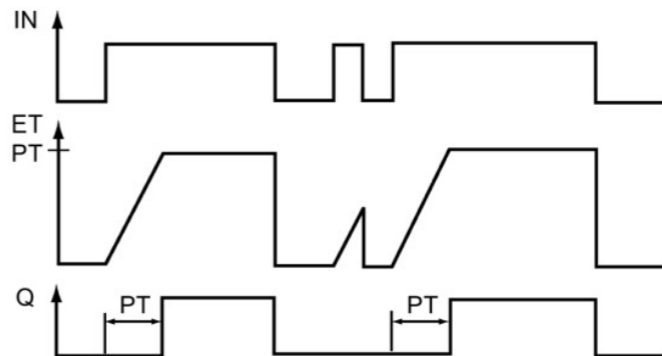

Figure 5.2: Sequence diagram for TON Timer
- f) Q (output): output 1 if ET=PT, output 0 if IN=0 or ET<PT; when Q=1, ET stops and hold, as shown in Figure 5.2.